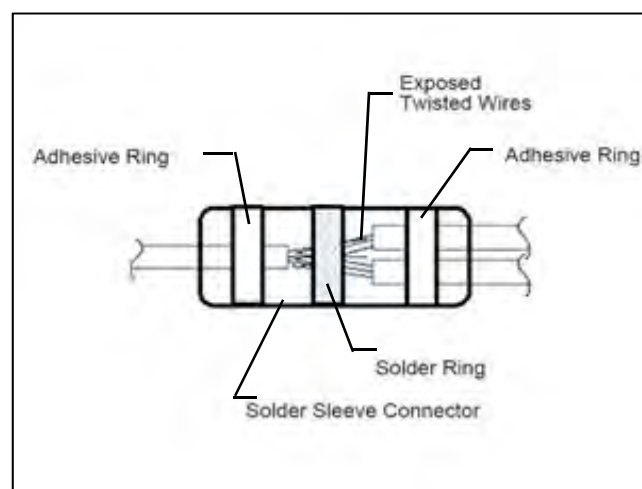

Figure 40
45. Position the blue solder sleeve connector so that the solder ring is in relation to the three twisted wires as shown in Figure 40.